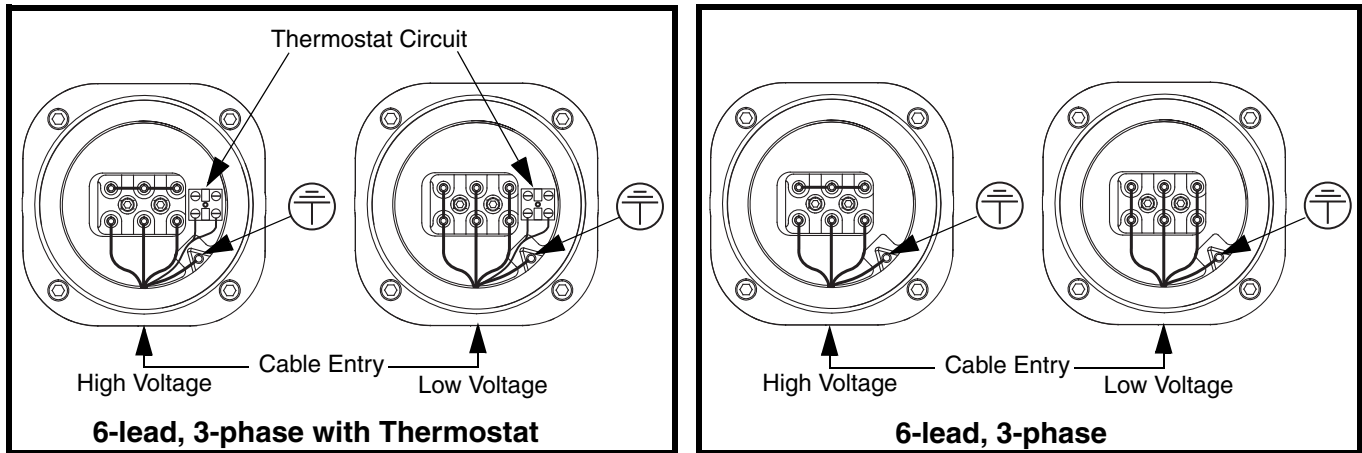

Figure 3. Wiring Diagrams
Wire vibrators according to wiring diagrams in Figure 3.
2. Trim conductors and strip insulation approximately 1/4 inch. Wire vibrator according to wiring diagram inside terminal box or see Figure 3. Use closed-loop wire connectors only.